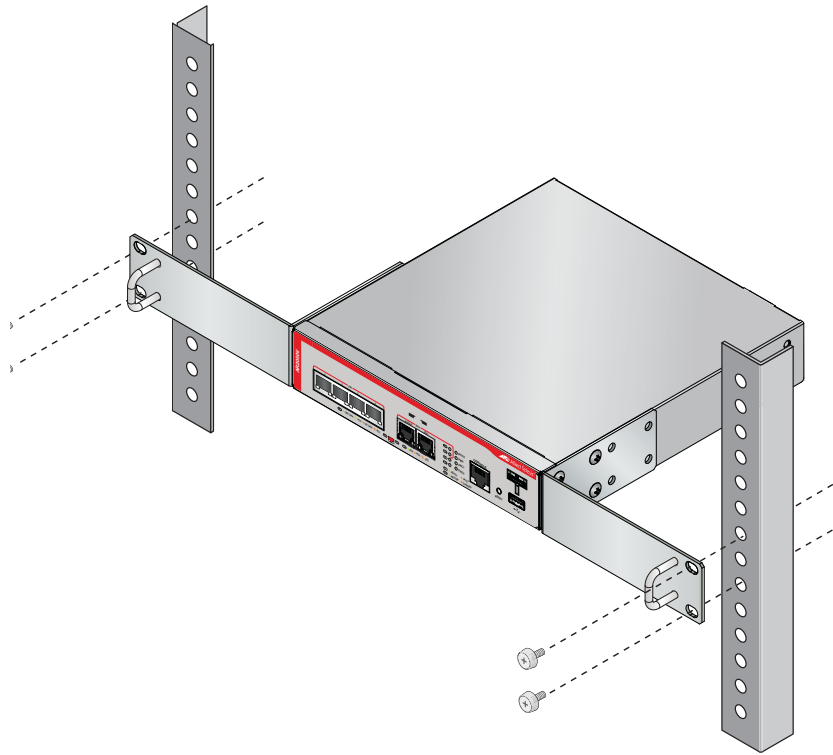

Figure 27. Mounting the router horizontally in an equipment rack
6. While another person holds the router in the equipment rack, secure it using standard equipment rack screws, as shown in Figure 27.